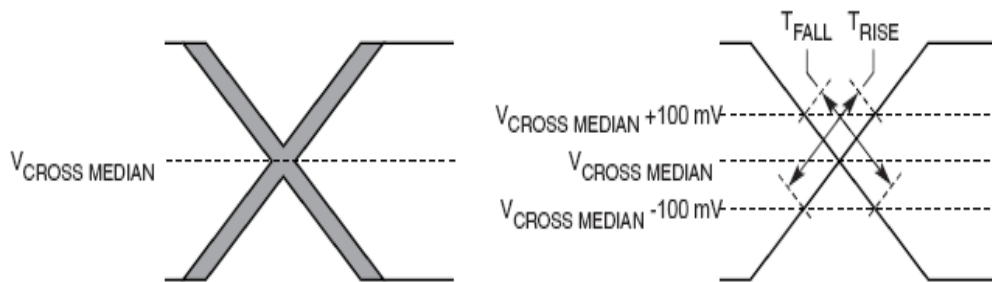

Figure 44. Single-Ended Measurement Points for Rise and Fall Time Matching
- Matching applies to rising edge for SD_REF_CLK and falling edge rate for $\overline{\text{SD}}_n$ _REF_CLK. It is measured using a 200 mV window centered on the median cross point where SD_REF_CLK rising meets $\overline{\text{SD}}_n$ _REF_CLK falling. The median cross point is used to calculate the voltage thresholds that the oscilloscope uses for the edge rate calculations. The rise edge rate of SD_REF_CLK must be compared to the fall edge rate of $\overline{\text{SD}}_n$ _REF_CLK, the maximum allowed difference should not exceed 20% of the slowest edge rate. See Figure 44.